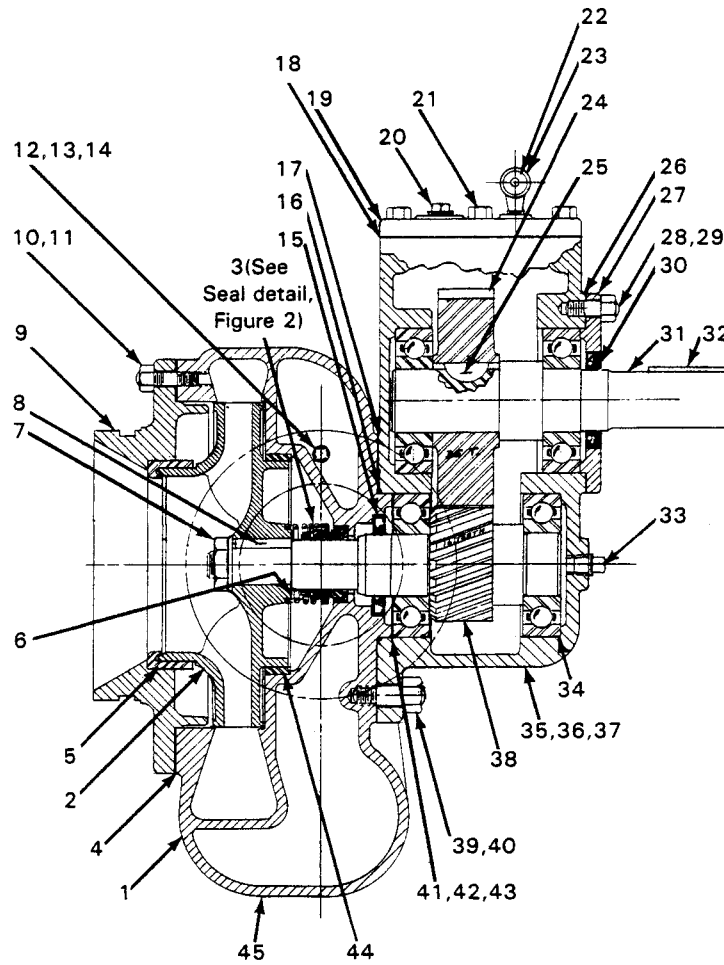

Figure 1. Pump Model 06C1-GA
This pump requires little service due to its rugged, minimum-maintenance design. If it becomes necessary to inspect or replace components, however, follow these instructions, which are keyed to the sectional view (see figure 1) and the accompanying parts list.
Reinstall the drive shaft bearing in the gearbox housing. Reinstall the drive gear key, and position the drive gear so that it engages the pinion shaft gear. Install the drive shaft and bearing. Inspect the oil seal (30) and replace as necessary. Reinstall the oil seal in the bearing cap, positioning the lip as shown in figure 1, replace the bearing cap gasket (26), and secure the bearing cap to the gearbox housing.
Replace the bearing shims. After final reassembly, shaft end play should fall between .005 and .012 inches; add or remove bearing shims to reach this recommended tolerance. Inspect the oil seal, and replace as necessary. Reinstall the oil seal in the volute housing, positioning the lip as shown in figure 1.